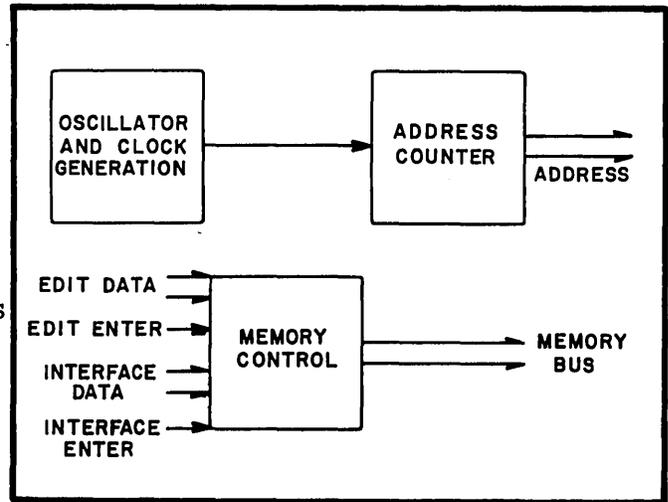

Figure 3-6. Timing and Control Circuits
3.7 TIMING AND CONTROL (See Figure 3-6)